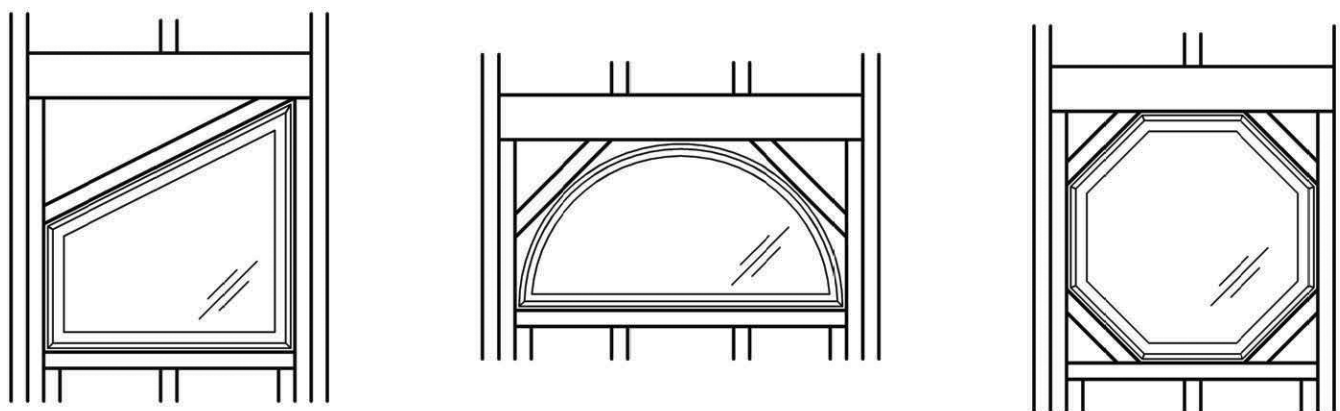

FIG. 1
- C) Framing recommendations for radius and geometric windows are shown in Fig. 1 below.